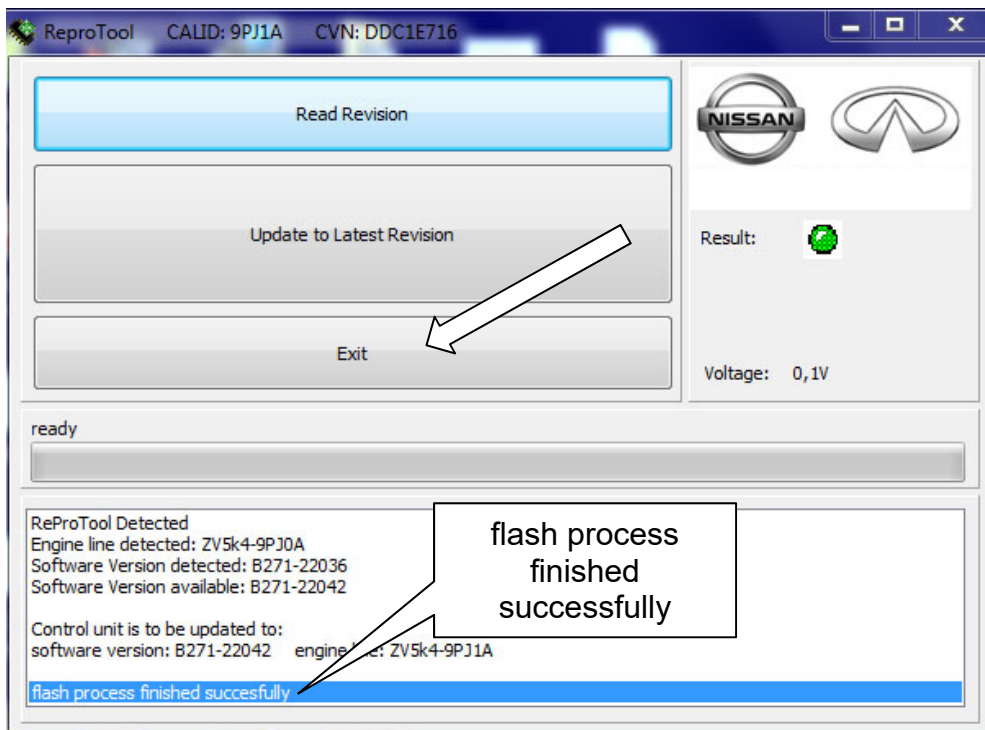

Figure 13
22. Verify the message “flash process finished successfully” as shown in Figure 13.